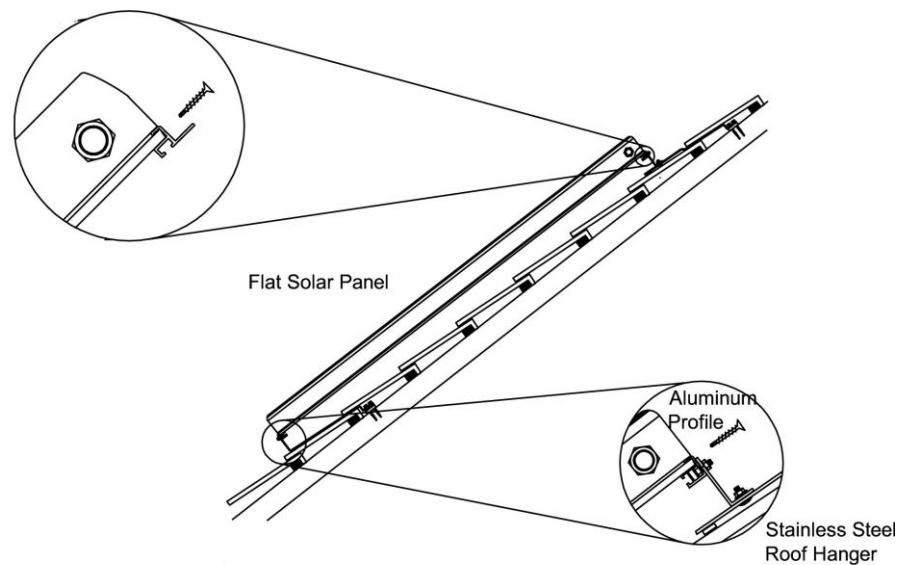

Figure 5: Joule On-roof Solar Collector Roof Hangers Fixing
- The Joule Navitas collectors are supported on upper and lower powder coated aluminium profiles. See Figure 5.
- Stainless Steel roof hangers may be used as alternative roof fixings depending on the roof covering. Details on the use of roof hangers/roof fixings are as follows. See also Figure 5.
The location on the roof where the panels are to be mounted is first selected. Tiles are removed at each bracket location, positioned in line with rafters at the left and right edges of the array and where the panels adjoin. Top mounting brackets must be at least 2 tile rows below the ridge. Before fitting the mounting brackets, EPDM weather tight rubber plugs are fitted (1 per bottom bracket) to protect and seal the tiles. See Figure 5. The fixing plate is pre-drilled for ease of alignment. The plastic spacers can be used in different combinations to pack the mounting brackets according to the height of the tiles and batten. Solar collectors shall not be secured directly to rafter timbers and shall only be fixed via timber reinforcing plants to meet the requirements of SR 50-2: 2012. The brackets are loosely screwed to the reinforcing plants using 8x80mm coach screws.